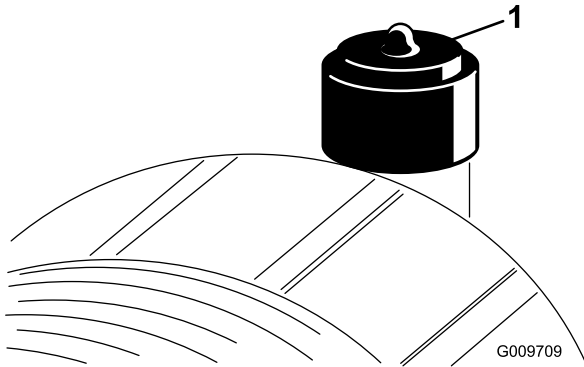

Figure 54
Service the air cleaner filter only when the service indicator (Figure 54) requires it. Changing the air filter before it is necessary only increases the chance of dirt entering the engine when the filter is removed.
6. Reset the indicator (Figure 54) if it shows red.